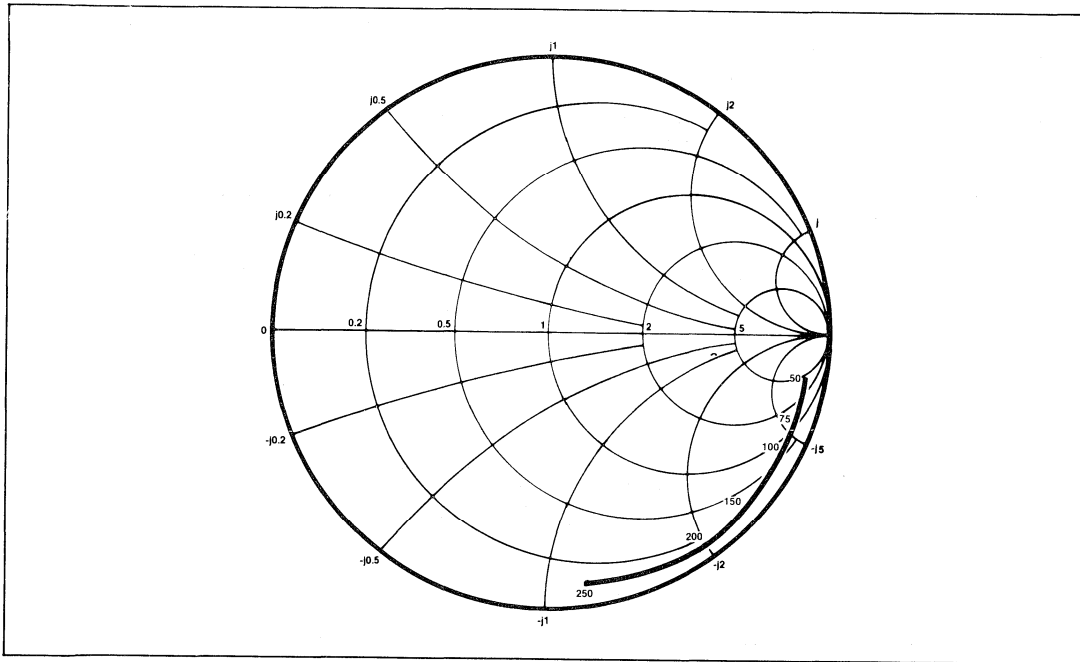

Fig.5 Typical input impedance. Test conditions: supply voltage 5.2V, ambient temperature 25°C, frequencies in MHz, impedances normalised to 50 ohms.
5. Input impedance is a function of frequency. See Fig. 5.